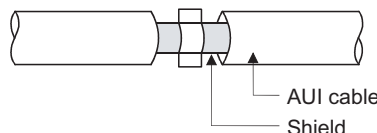

Figure 9.5 AUI cable grounding
- Always ground the AUI cables*¹ connected to the 10BASE5 connectors. Because the AUI cable is a shielded type, strip part of the jacket as shown in Figure 9.5 and ground the exposed shield section to the ground as much as possible.